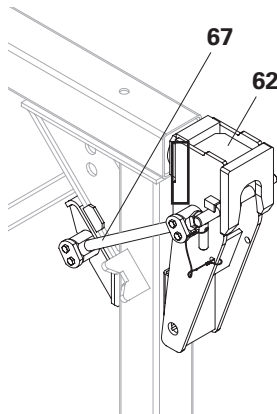
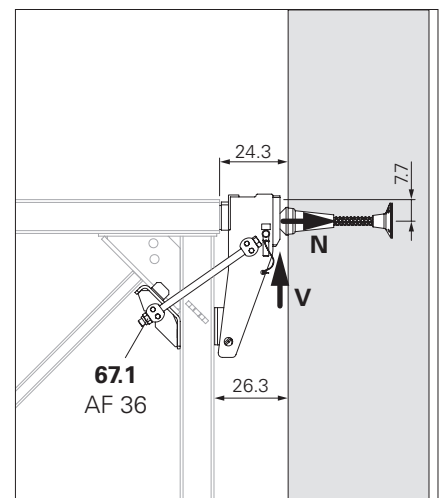

Fig. F2.07
Fig. F2.08
5. Secure the suspension shoe on the brace frame with screws and nuts. (Fig. F2.07 + Fig. F2.08)
(Fig. F2.08)